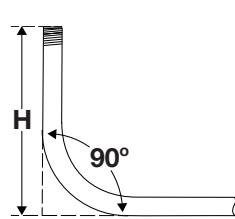

Figure 22
- Make MARK 1 by measuring to the Target Stub Length (H). (Fig.22)